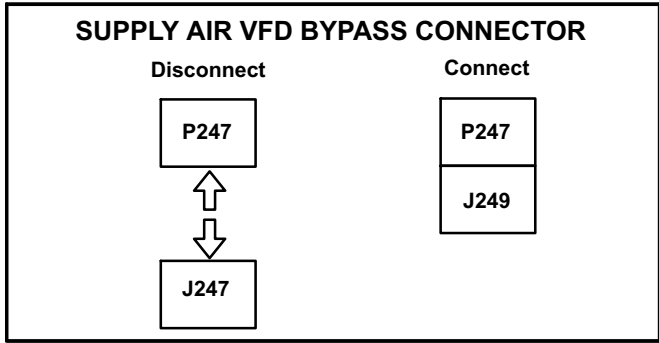

FIGURE 29
- 3- Disconnect P247 from J247 and connect J249 to P247. See figure 29.